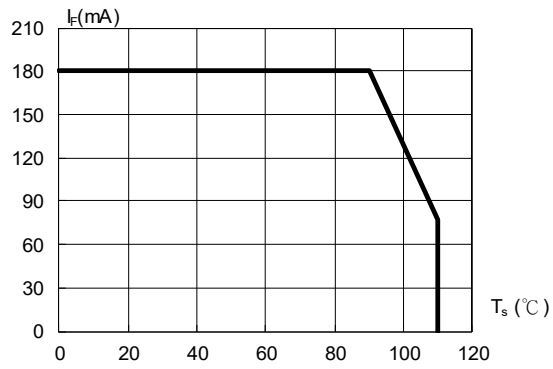

Fig.4 Allowable Forward Current vs. Solder Point Temperature
1. Design of heat dissipation should be considered. For the allowable operating current at different operating temperature, please refer to fig 4. page 5.